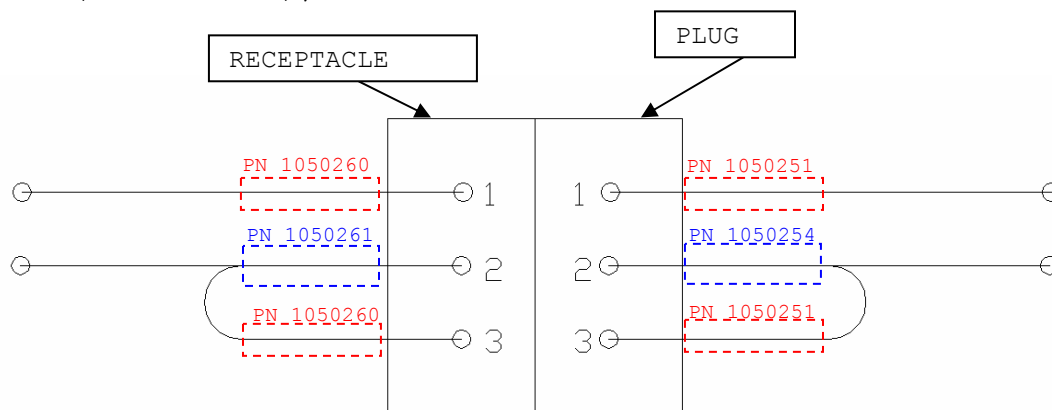

FIGURE 1: SOLDERED WIRE CONFIGURATION FOR CONNECTORS WITH BOOT SEAL PART NUMBERS
5.17 SLIDE THE SPLICE BOOT SEAL (P/N 1050254 FOR PLUG, P/N 1050261 FOR RECEPTACLE) ONTO THE CIRCUIT 2 WIRE. SLIDE ANOTHER WIRE (15 INCHES OR LONGER) INTO THE OTHER SPLICE NIPPLE ON THE SPLICE BOOT. THIS WILL BE THE LOOPED WIRE SEEN IN FIGURE 1. PROVIDE ENOUGH ROOM FOR SOLDERING OPERATIONS.
5.18 WITH THE CONNECTORS UNMATED, SOLDER THE WIRE LEADS TO P/N 1050130 PER THE GENERAL REQUIREMENTS OF **D/N 10637** (SOP-021-39), REFERRING TO FIGURE 1 FOR CIRCUIT CONFIGURATION.